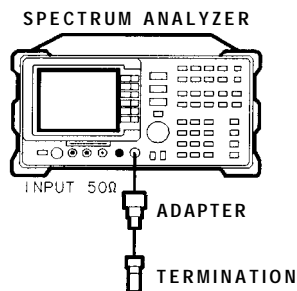

Figure 2-79. Residual Response Test Setup
1. Connect the termination to the spectrum analyzer input as shown in Figure 2-79.